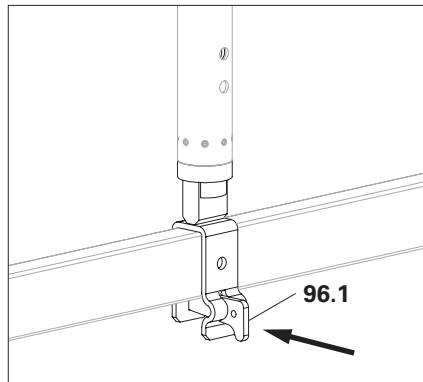

Fig. A11.09d
5. Tighten all wedges (**96.1**). (Fig. A11.09d)